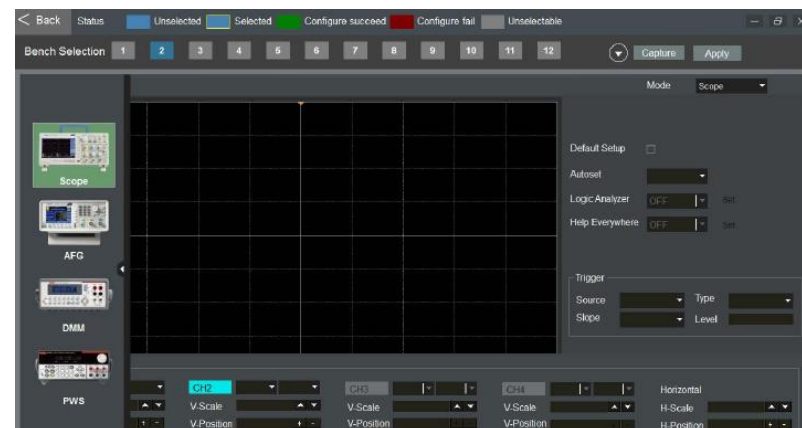

Figure 33. TekSmartLabs centralized instrument configuration panel
4. To centrally configure all the instruments in your lab, Click **Configure Instrument** from the home page (Figure 33).